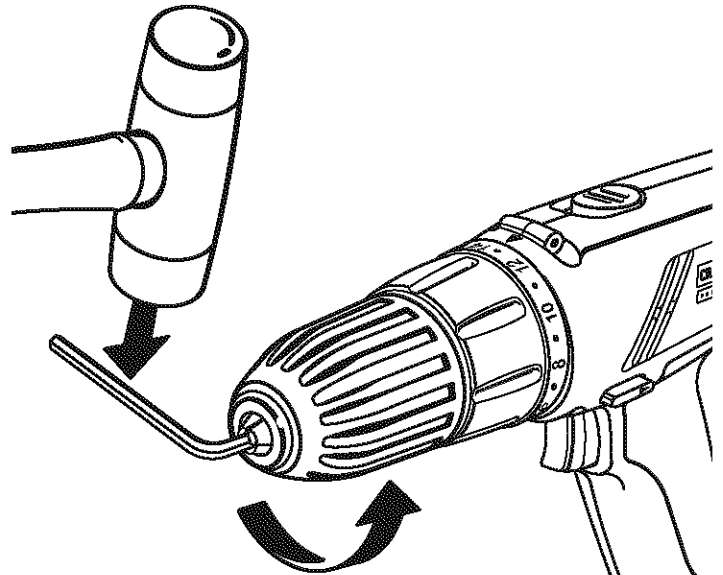

Fig. 17
- Insert hex key in chuck and tighten chuck jaws securely. Tap sharply with a mallet in a counterclockwise direction. This will loosen chuck on the spindle. It can now be unscrewed by hand. See Figure 17.